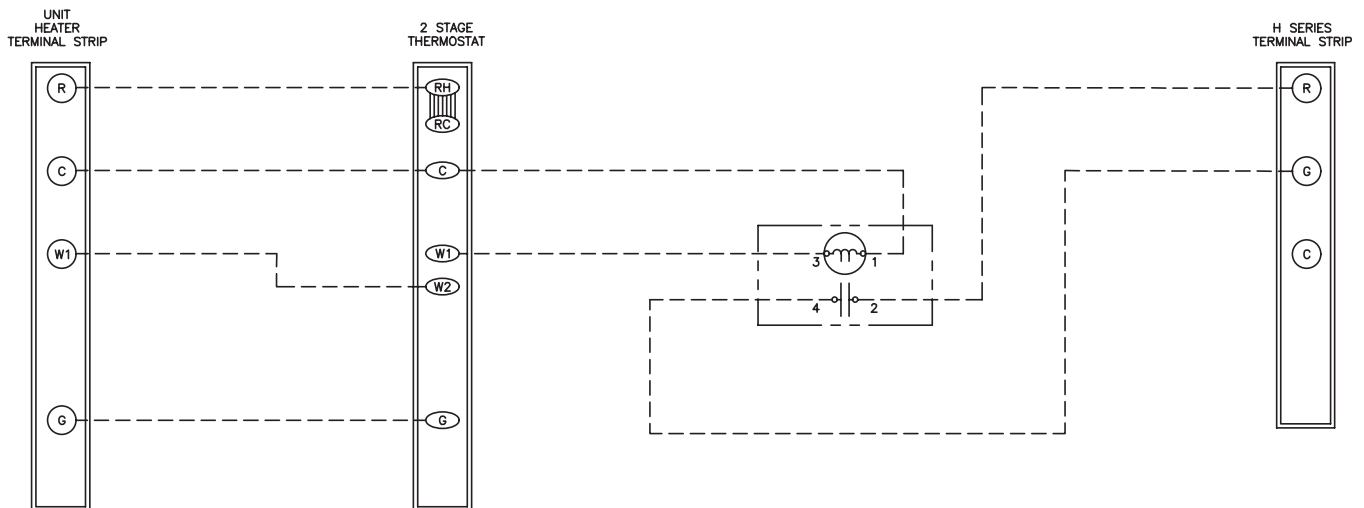

Figure 4. Fan and Unit Heater Wiring Diagram
- If the installation features a Huracan fan and a Reznor unit heater controlled by a single two-stage thermostat, ensure that the wiring is in accordance with the wiring diagram shown in **Figure 4**.